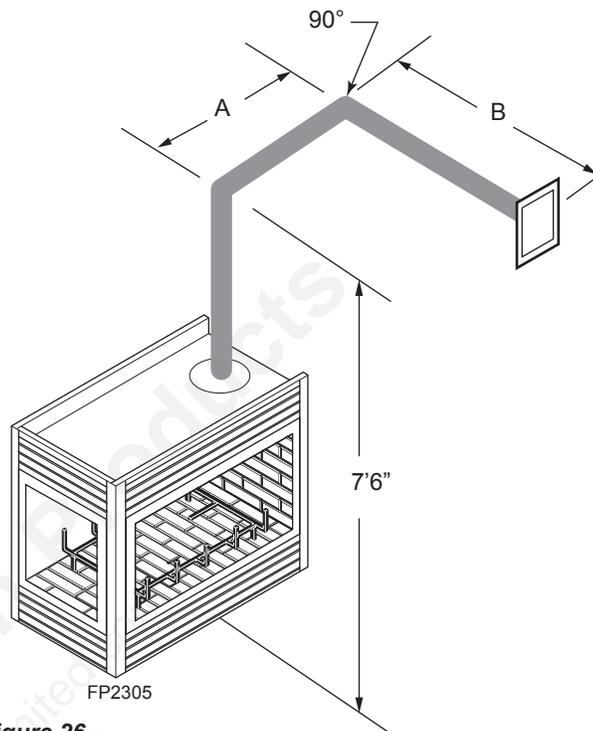

Figure 26 - Horizontal Run Reduction
- If a 90° elbow is used in the horizontal vent run, the horizontal vent length is reduced by 36" (914 mm). *Figure 26.* This does not apply if the 90° elbows are used to increase or redirect a vertical rise. *Figure 26*